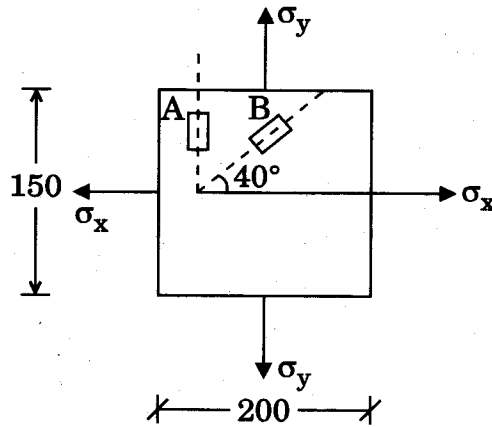

Figure 2
- (e) A 200 mm × 150 mm × 10 mm aluminium plate is subjected to uniform bi-axial stresses  $\sigma_x$  and  $\sigma_y$ . Two strain gauges A and B are attached to the surface of the plate as shown in the Figure 2. If readings in strain gauges are  $\epsilon_A = 200 \times 10^{-6}$  and  $\epsilon_B = 285 \times 10^{-6}$ , what are the values of  $\sigma_x$  and  $\sigma_y$ ? What is the reduction in thickness of the plate as a result of stresses?